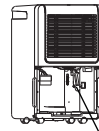
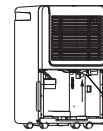

Fig.7
Fig.8
- If the pump detaches when you remove the bucket (see Fig.7), you must reinstall the pump properly to the unit before replacing the bucket back into the unit (see Fig.8).